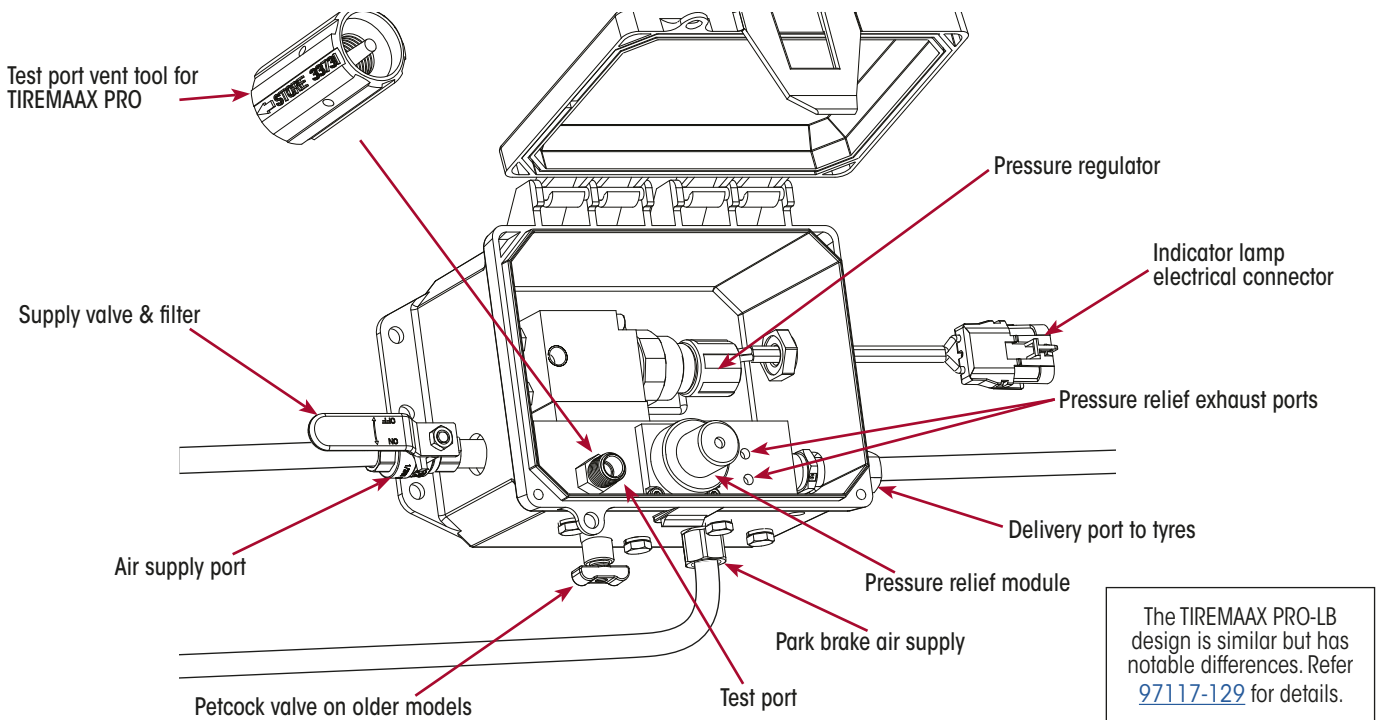
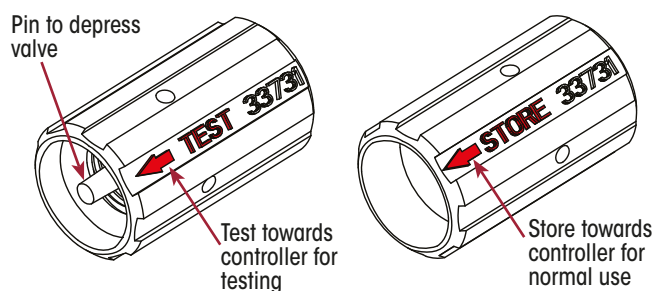

Figure 207: TIREMAAX PRO Controller Components
Figure 212: Later TIREMAAX PRO Test Port Vent Tool
- Later TIREMAAX PRO systems have a test port that covered by a test port vent tool. To enable the test port, remove the tool from the test port and turn it around so that the pin on the tool presses on the test port valve. If in doubt, refer to the inherent marking on the side of the test port tool. Refer Figure 207 and Figure 212.